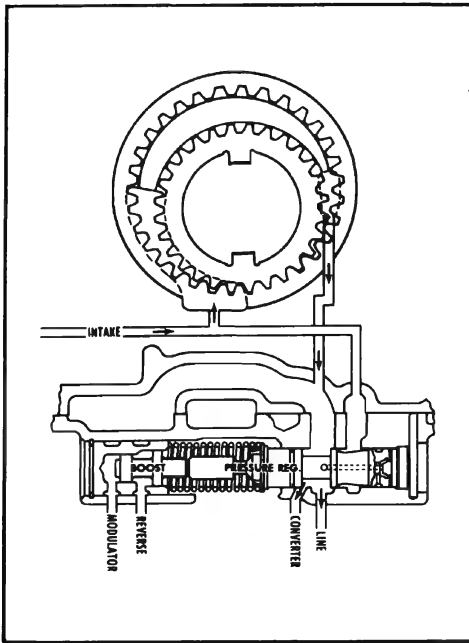

Figure 5-208—Pressure Regulator
a. Regulates line pressure according to a variable spring force which is controlled by modulator and reverse pressure. See Figure 5-208.